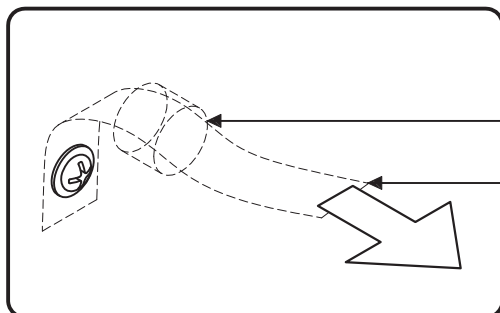

Figure 8
Move unit back into place and insert Tipover Restraint into unit through hole in Back Panel (N). (See Figure 8)